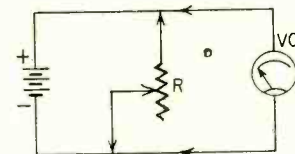

Fig. 4—
Such a battery appears "good" on a voltmeter test, and "weak" under load because a substantial portion of its emf is dropped across the abnormally high internal resistance. In an ohmmeter, the battery's internal resistance is added to the test-lead resistance. Hence, a weak battery has the same effect as defective test leads. It is easy to measure the internal resistance of a battery (Fig. 4).
First, measure the battery voltage on open circuit. Then connect a rheostat (R) across the battery as in Fig. 4, and set the rheostat to the point where the voltmeter indicates one-half of the open-circuit voltage. The resistance of the rheostat is then equal to the battery's internal resistance. For example, a typical "good" size-D flashlight cell might have 0.4 ohm internal resistance.